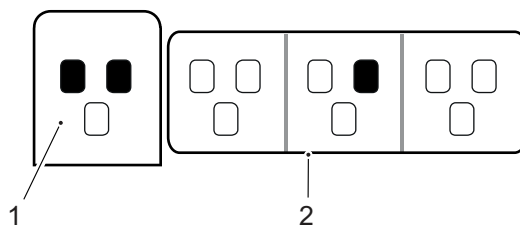

Fig. 3-15 AEC field selection
When selecting the *AEC field* button, a pop-up-window with the different AEC fields appears, see **Fig. 3-15**. The AEC fields are activated by selecting them in the pop-up window (2) to the right. All activated AEC fields are shown at (1). AEC fields are deactivated by selecting them again in the pop-up window (2).